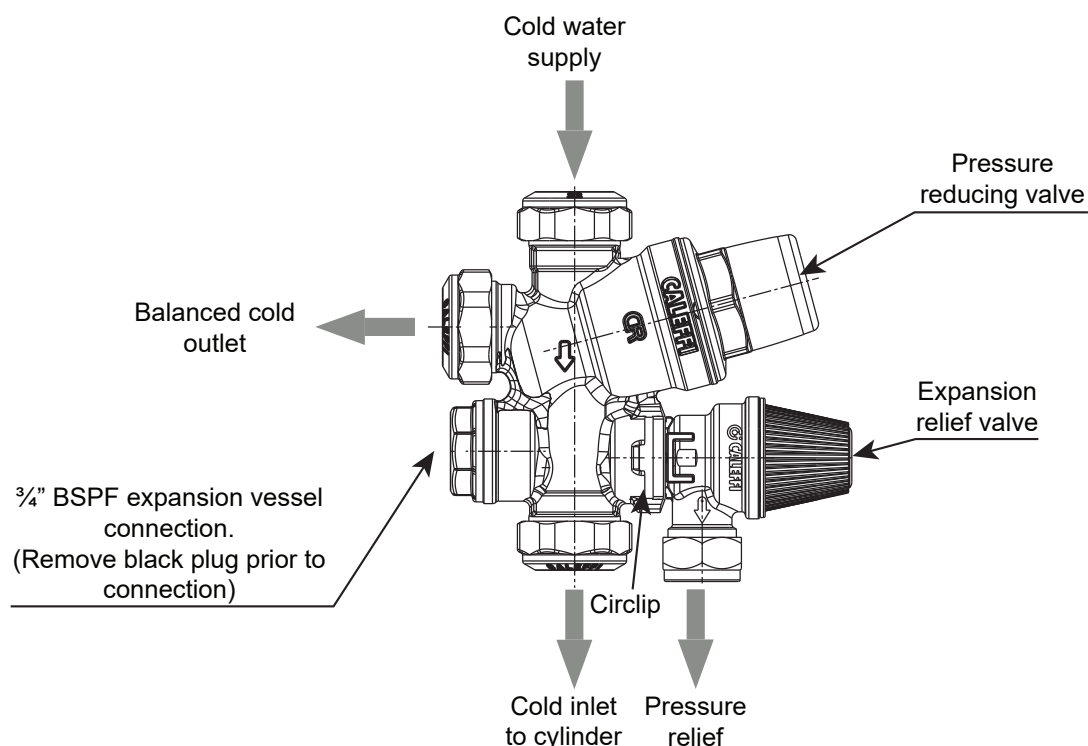

Figure 4-1: Cold water inlet manifold (orientation as fitted on a Grant QR2 cylinder)
A balanced cold water connection is provided on the inlet manifold. Refer to Figure 4-1. This should only be used to provide balanced cold supplies to shower valves and mixer taps. If the balanced cold water outlet is not required, blank off this port.
6. Connect the expansion vessel directly to the 3/4" BSPF connection in the inlet valve manifold body, after removing the black plastic plug. See Figure 4-1 and Section 4.4.
This expansion vessel must be connected into the cold water supply, between the expansion relief valve (in the inlet manifold) and the cold water inlet to the cylinder. Refer to Figure 4-1.
The preferred method of connection is to hard pipe the expansion vessel directly to the 3/4" BSPF connection in the inlet valve manifold body using 22mm diameter pipe. Refer to Figure 4-1.
1. Remove the black plastic plug from the inlet manifold body (refer to Figure 4-1).